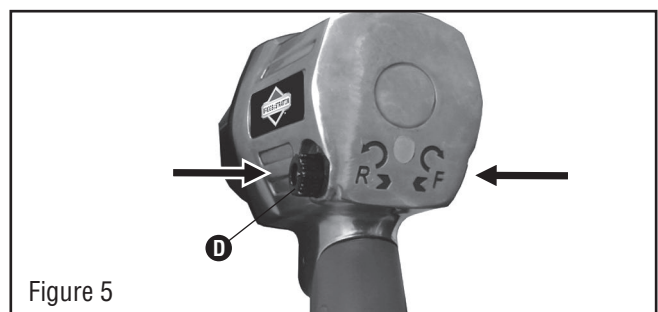

Figure 5
Push the F/R valve knob (D) backward. Press the trigger (C). Then the tool anvil (B) runs clockwise. (See Figure 5)
Push the F/R valve knob (D) forward. Press the trigger (C). Then the tool anvil (B) runs counterclockwise. (See Figure 5)